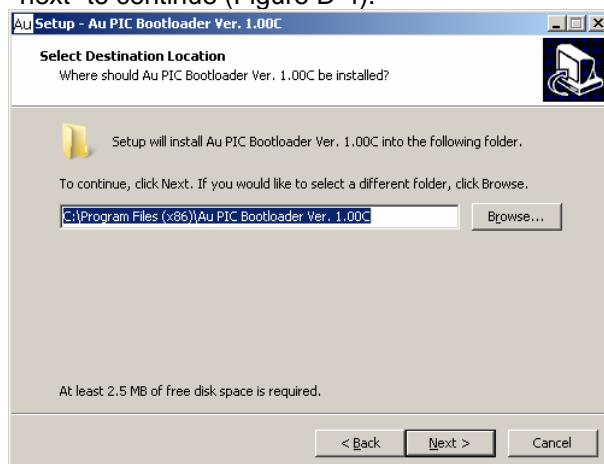

Figure D-4
4. "Select Destination" window shows up, use default path: C:\Program Files\ AU PIC Bootloader", then click "next" to continue (Figure D-4).